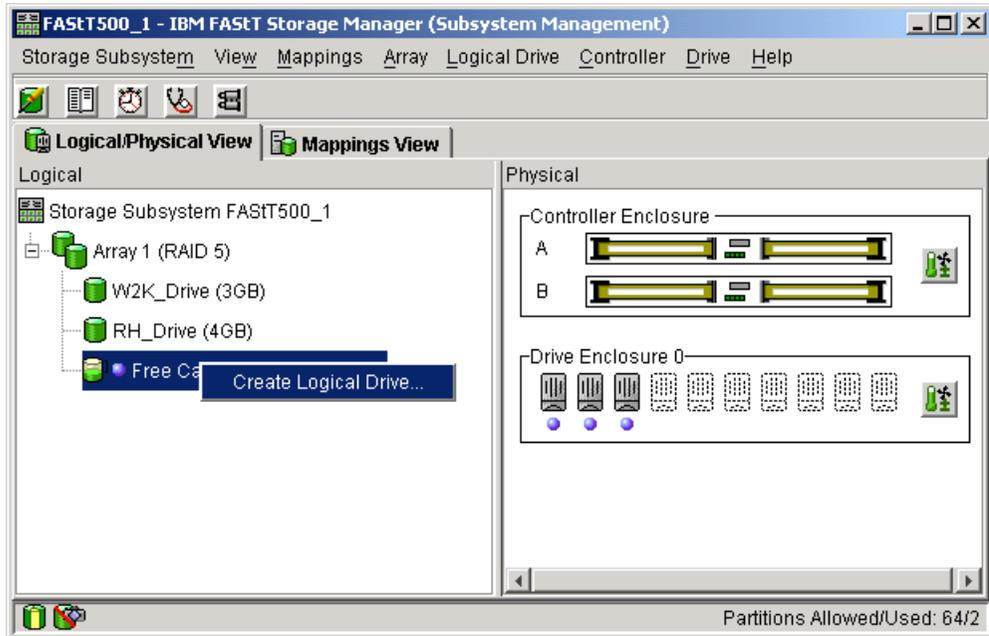

Figure A-3 Create logical drive
- Right-click **Free Capacity** and select **Create Logical Drive...** to create a logical drive for the new xSeries Linux server, as shown in Figure A-3.